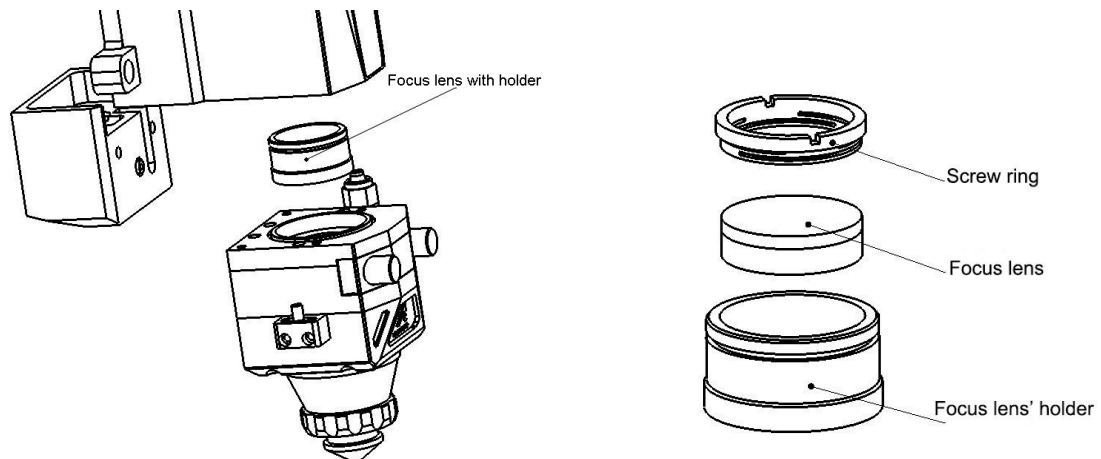

Figure 16. Focus lens with lens' holder.
(1) Disassembly the cutting head and clean up all the dust on the surface of the head in a clean place;
(2) Loosen all the screws of the focus lens unit showed in figure 16 by hexagonal screw driver in 4mm, and kindly suggest you use masking tape to cover the part connecting with focus lens for preventing dust coming inside;
(3) Take out of the focus lens with lens' holder by optics resemble tools and then take out of the screw ring and focus lens by the same tool;
(4) Clean or change the focus lens;